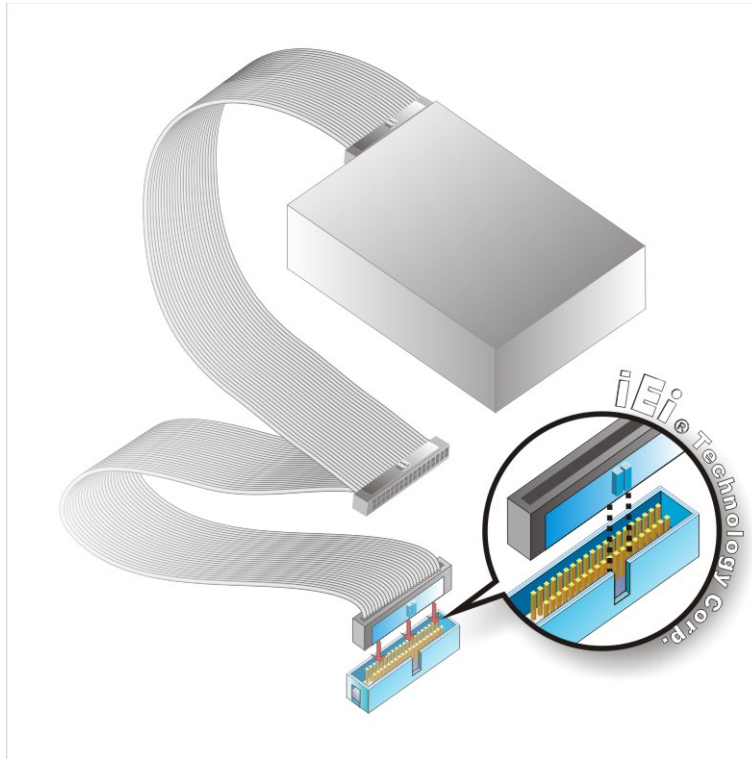

Figure 5-9: IDE Cable Connection
Step 2: Insert the connector. Connect the IDE cable connector to the onboard connector. See **Figure 5-9**. A key on the front of the cable connector ensures it can only be inserted in one direction.